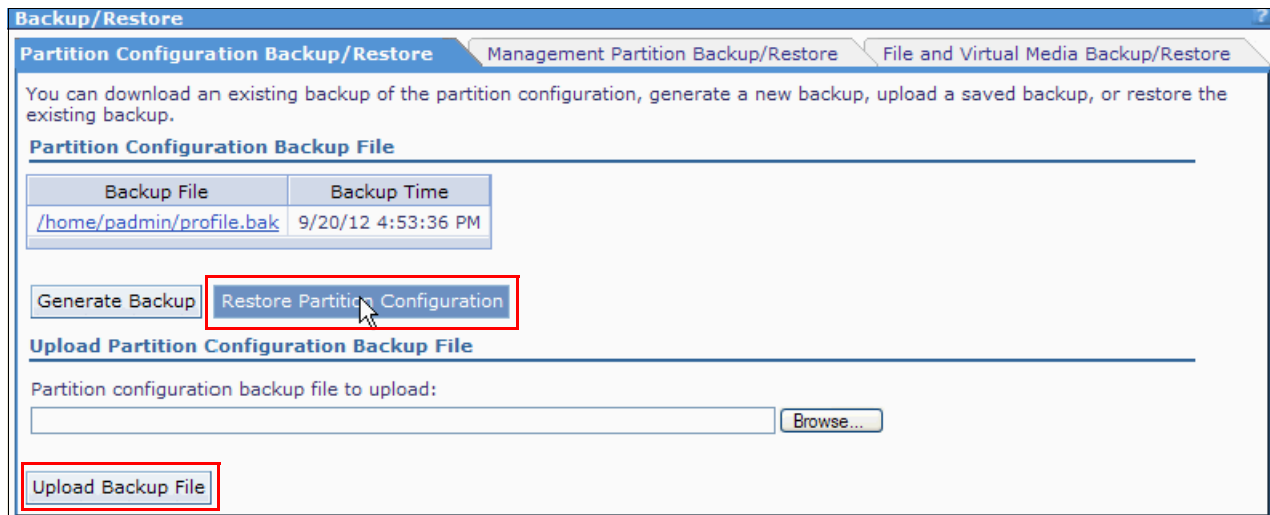

Figure 5-3 Restoring the profile
3. Click **Restore Partition Configuration** to restore the uploaded backup file. See details in Figure 5-3.